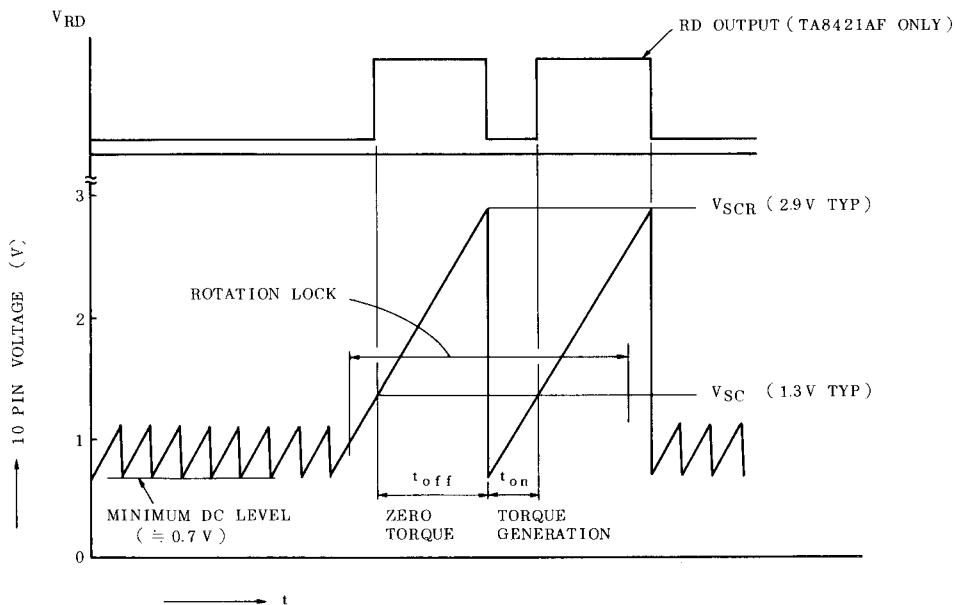

Fig. 1 Automatic Self Rotation Recovery Circuit Operation
Fig.1 shows ⑩ pin voltage and the operation of this functions are as follows.
RD output becomes low (Actually $V_{SAT}(RD)$ level of 0.3V TYP.) when the Motor in rotation state and generates t_{off} pulse when the rotation is locked (Refer to Fig. 1).